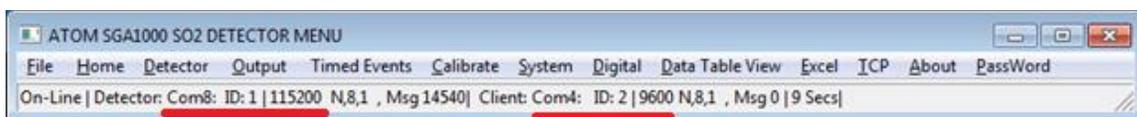

Figure 3.8
2. Before closing the atom.exe software note the information underlined in red (Figure 3.8). The values shown in figure 3.8 are for example only and will differ for each user.